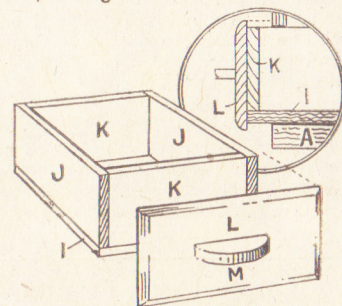

Fig. 3—How the drawer is made
The construction of the drawer is made clear in Fig. 3 and needs but little comment beyond these illustrations. When the actual box part of the drawer, consisting of parts (I), (J), and (K), are glued up and pinned with fret pins neatly along the sides and edges, the outer front (L) is glued on. This front, as will be noted from the cutting list, is a little larger all round than the actual opening in the front of the box, so that when the drawer is pushed home this front rests neatly and flush with the front surface of the box. The section through the front of the drawer, shown in the circled diagram in Fig. 3, shows the relative position of all the parts when the drawer is slightly withdrawn.